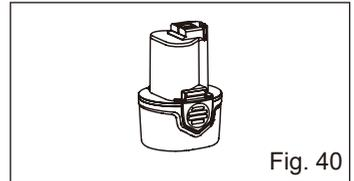

Fig. 40
3) Batteries (Lithium-ion batteries) (Fig. 40)